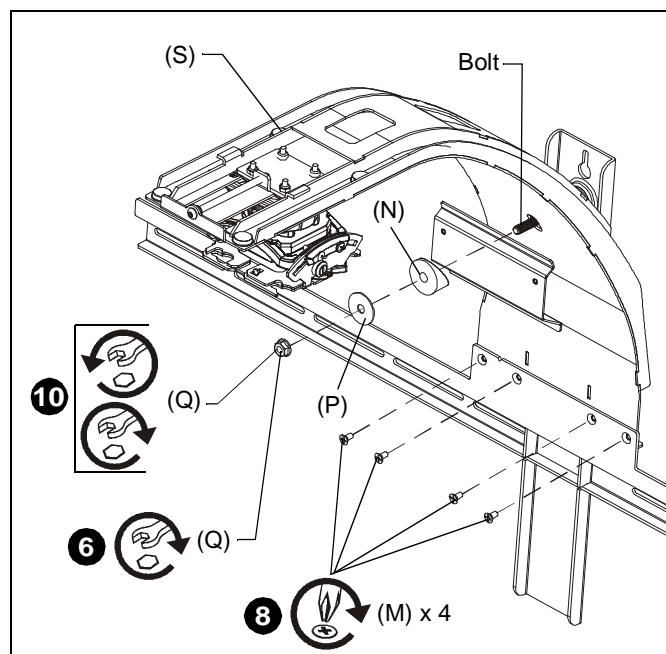

Figure 6
6. Hang boom projector mount (S) over bolt on wall bracket assembly and loosely fasten (hand tighten) using boom spacer (N), 5/16" washer (P) and 5/16" nut (Q). (See Figure 6)
7. Align four fastener holes along bottom of boom projector mount behind four holes in wall bracket. (See Figure 6)
8. Install and tighten four 10-24 x 3/8" Phillips flat head screws (M) through wall bracket assembly into boom projector arm (S). (See Figure 6)
9. Place level lengthwise on top of boom projector arm (S).
10. Level boom projector arm (S) by loosening or tightening the 5/16" nut (Q) on the bolt from the wall bracket assembly. (See Figure 6)